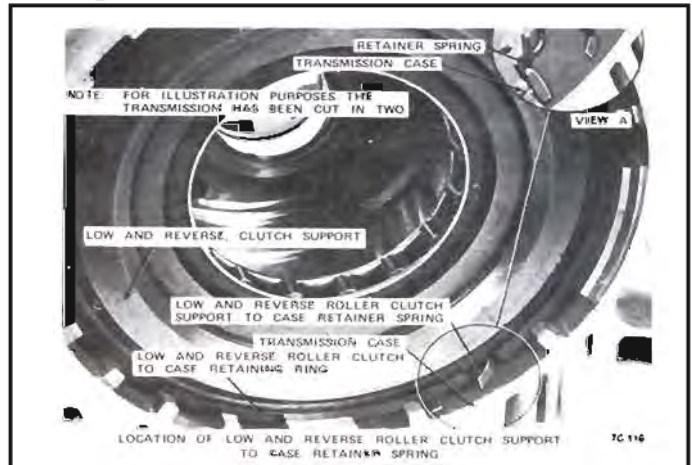

Figure 85 Retainer Location
2. Install low and reverse clutch support retainer spring. See Figure 85.
4. Install low and reverse clutch support to case retaining ring. *See Figure 85.*